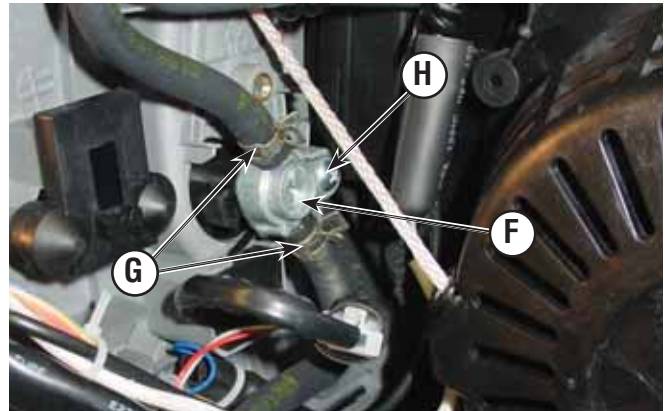

Figure 25
- Locate fuel valve (**F**, Figure 25) inside of the generator enclosure.